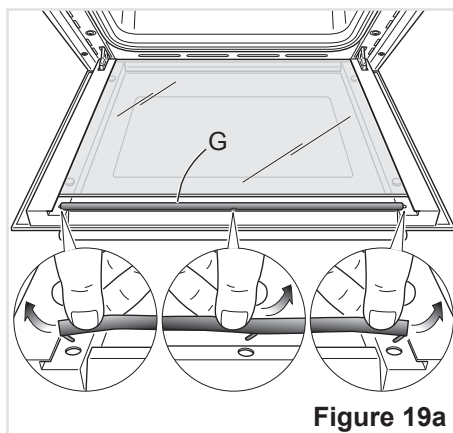

Figure 19a
- Remove the seal "G" by unhooking the no. 3 fixing hooks (fig. 19a).